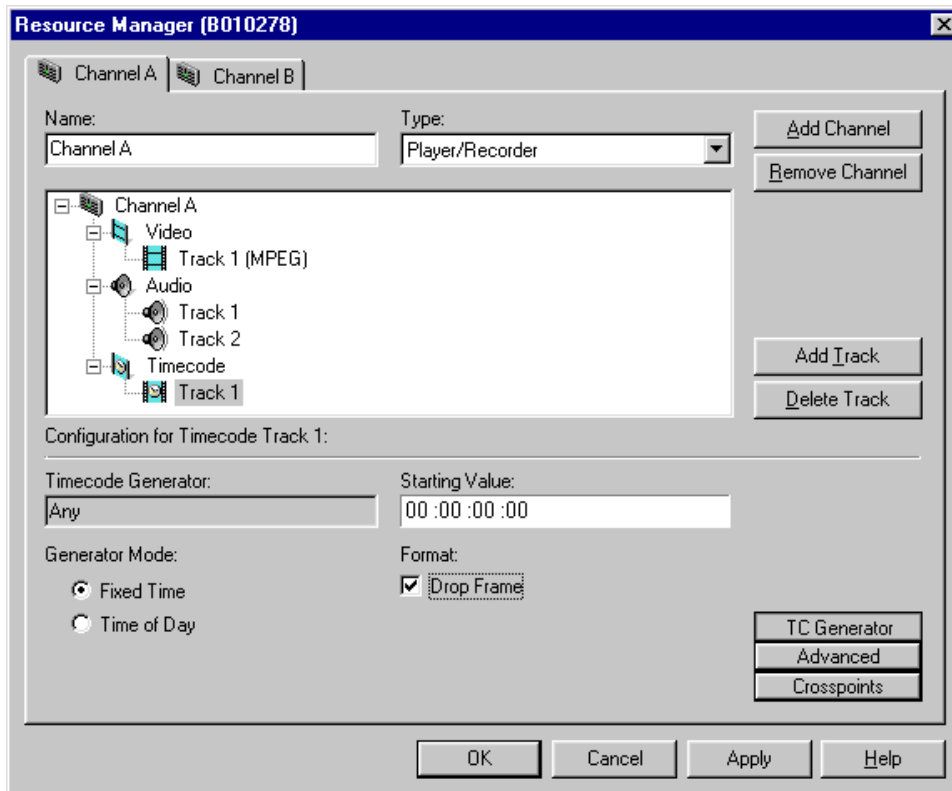

Figure 164. Timecode generator controls
1. With a timecode Track selected in the configuration tree, click the **TC Generator** button. The timecode generator panel appears (see Figure 164). The controls are dimmed except when “Internal Generator” is the timecode input.